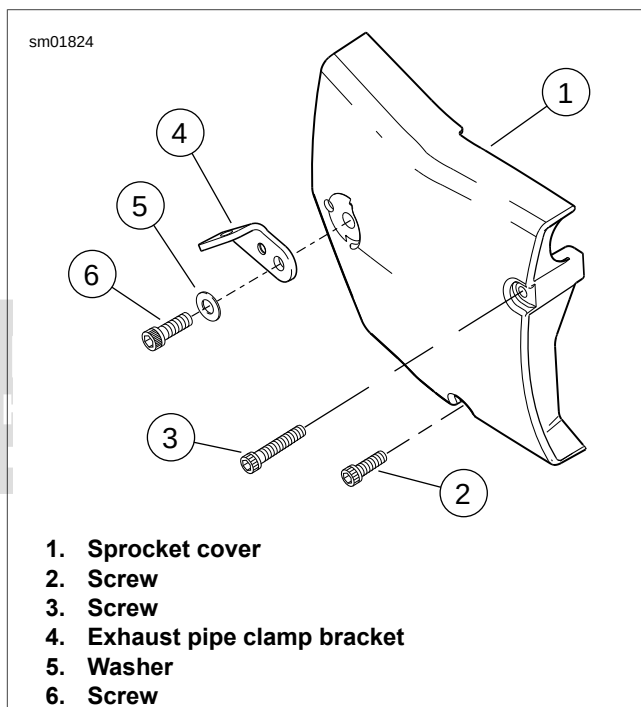
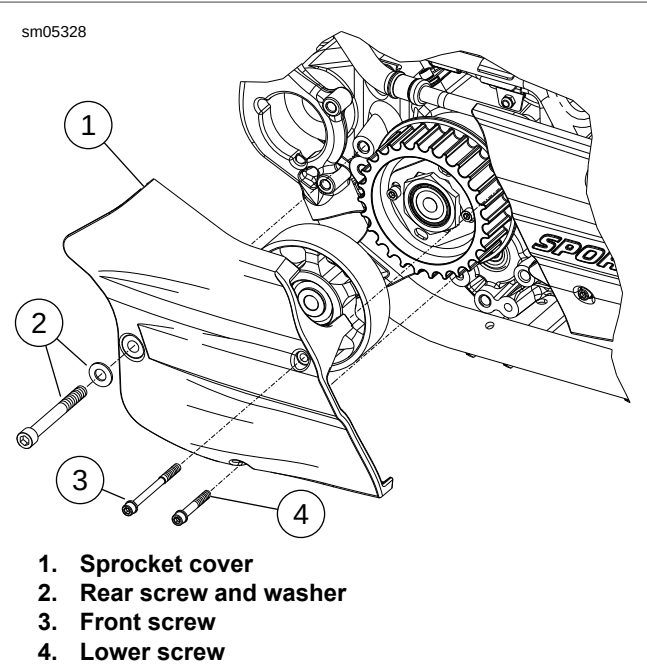

Figure 2-171. Sprocket Cover: XL Models
Figure 2-172. Sprocket Cover: XR 1200X
- a. **XL Models:** See Figure 2-171. Remove screw (6), washer (5) and exhaust pipe clamp bracket (4). Remove two screws (2, 3). Remove sprocket cover (1).
- b. **XR 1200X:** See Figure 2-172. Remove screw and washer (2) and screws (3, 4). Remove sprocket cover (1).
- a. See Figure 2-171. Install sprocket cover (1). Secure with two screws (2, 3). Note that long screw goes in top hole, short screw in bottom hole. Do not tighten screws at this time.
- b. Install exhaust pipe clamp bracket (4), washer (5) and screw (6). Tighten to 30-33 ft-lbs (40.7-44.7 Nm). Now tighten screws (2, 3) to 80-120 **in-lbs** (9.0-13.6 Nm).
- a. See Figure 2-172. Tighten screw (2) to 30-33 ft-lbs (40.7-44.7 Nm).